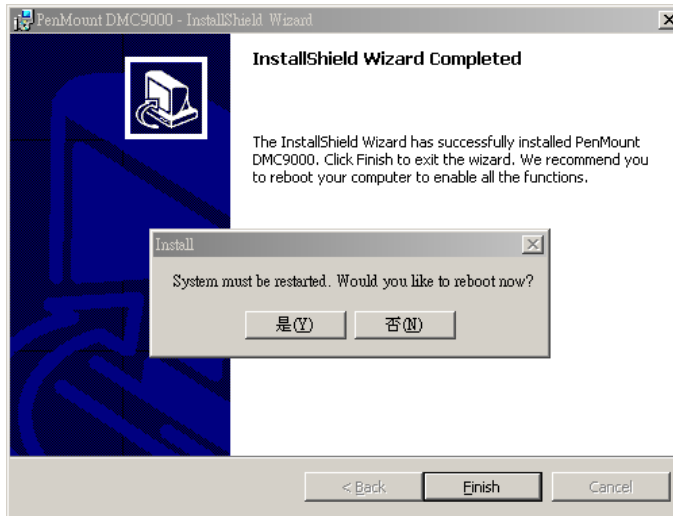

Figure 7-23: Reboot the Computer
Step 6: The user is then prompted to select to restart the computer now or later (Figure 7-23). For the settings to take effect, the computer must be restarted. Click **Yes** to restart the computer.